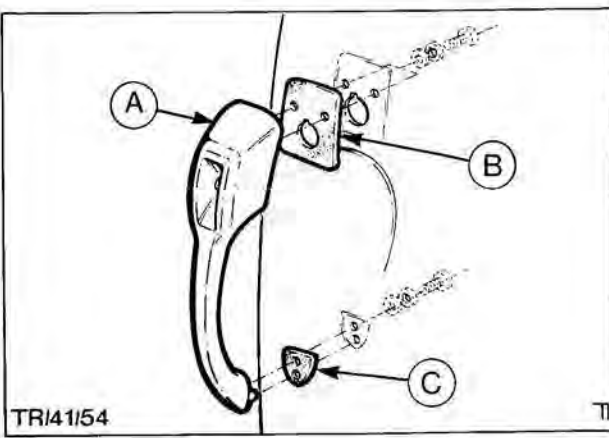

Fig. 37. Exterior handle and mounting pad assembly
4. Position upper and lower mounting pads on exterior handle and locate handle on door outer panel. Secure handle to door with three screw and washer assemblies, Fig. 37.